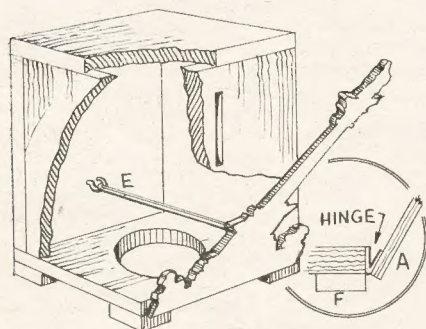

Fig. 3—General view of construction
The lower end of the overlay when fixed must come flush with the bottom edge of the box, and the enlarged detail in Fig. 3 shows how the hinging is carried out. A piece of linen tape  $3\frac{1}{2}$  ins. long and  $\frac{1}{2}$  in. wide is creased along its length. Half the width is glued to the overlay and half to the box as shown.
The sectional diagram, Fig. 3, shows all the necessary detail regarding the elastic (E) and the hole in the floor for the extraction of the money. Four square feet, F, should be added for clearance when the overlay is lowered.